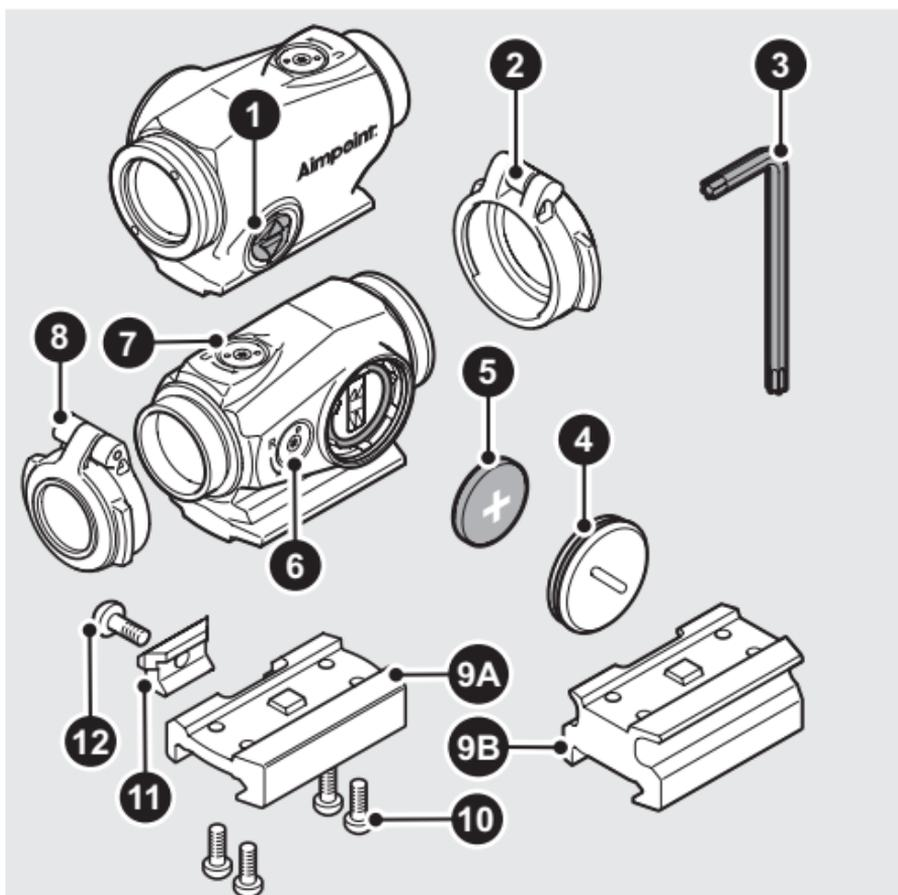

Fig. 1 Overview
- c Insert battery (5) with the positive end (+) toward the battery cap (4) as seen in Fig. 1.